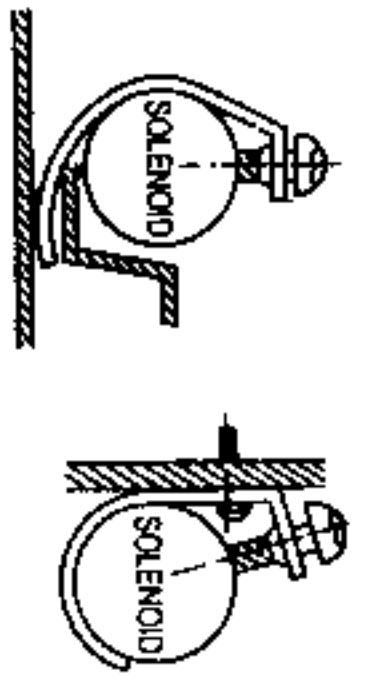

FIG 3
3. Make sure cable is run freely without binding. Attach cable to hook by using wire clamp (see fig. 3). Remove slack before tightening nut on hook.